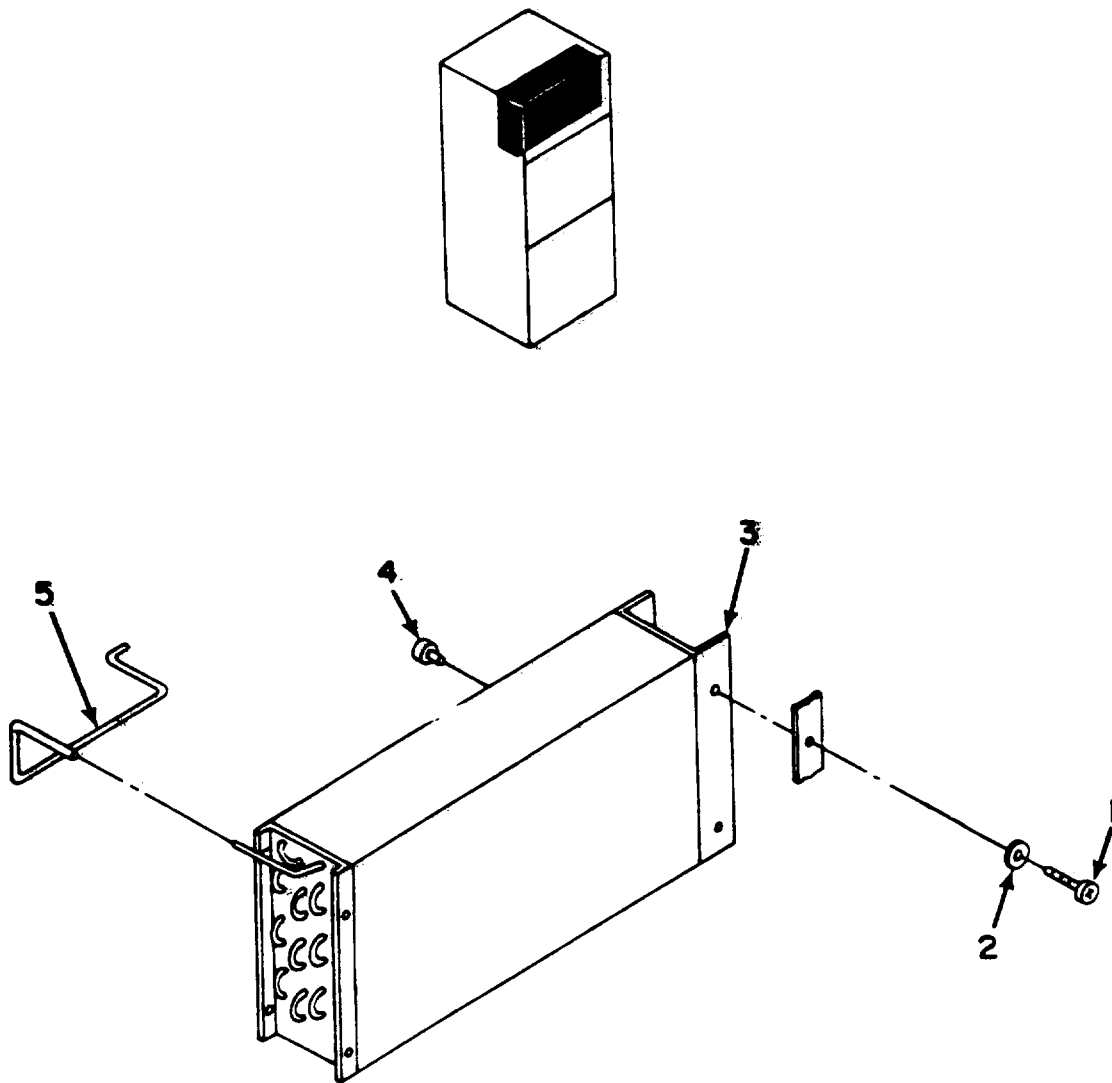

Figure 5-14. Evaporator Coil.
a. **REMOVAL.** See Figure 5-14.